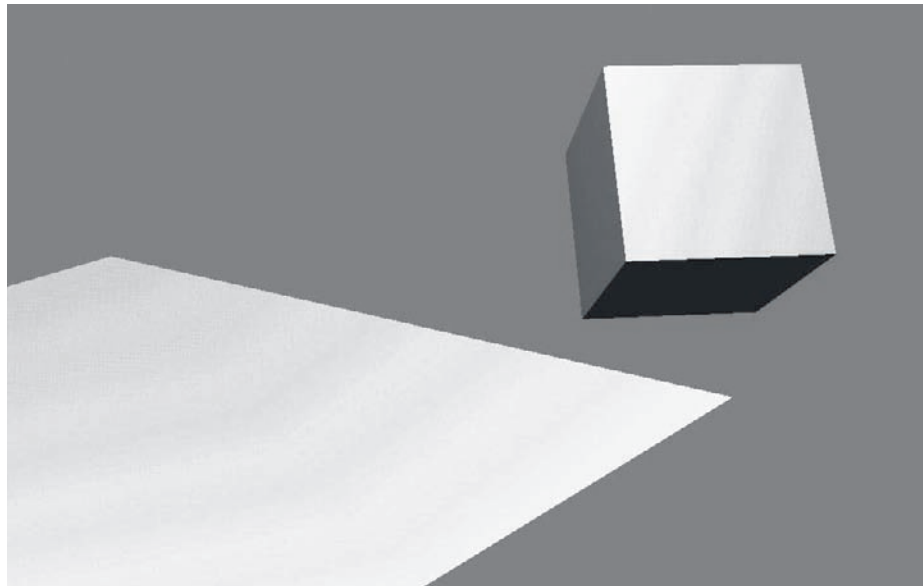

Figure 6.14 Enjoying an exciting game of "Push the Cube into the Abyss"
10. In the 3D viewport, press P again to enter Game Play mode. This time, try pressing the spacebar while in Game Play mode. You should now have some control over the movement of the cube. Giving the spacebar a good press will send the cube flying off the plane as in Figure 6.14. Press Esc to get out of this mode.